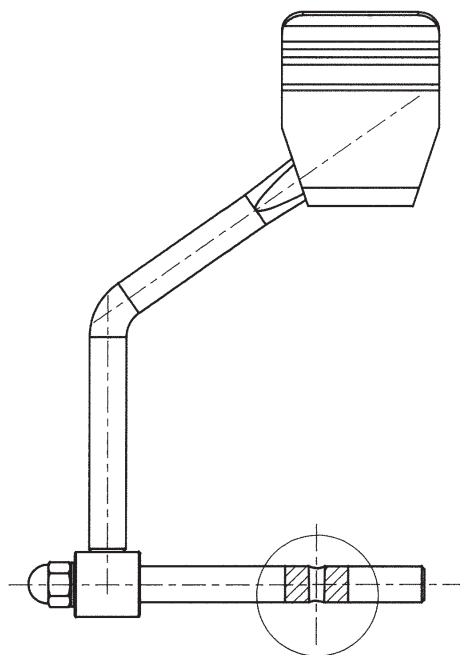

Fig. 4
6. Remove the cap nut and separate the axe from the pedal. Replace the axe in a way that the pin bearing is in line with the pedal and the smaller diameter side of the said conical hole situated on the opposite side of the pedal (fig 4).